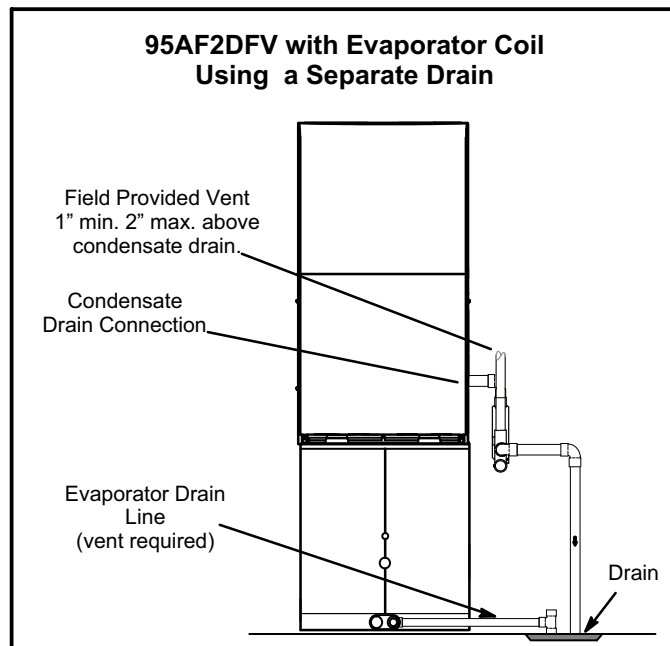

FIGURE 45
- 5 - Figure 45 shows the furnace and evaporator coil using a separate drain. If necessary, the condensate line from the furnace and evaporator coil can drain together. See figure. The field provided vent must be a minimum 1" to a maximum 2" length above the condensate drain outlet connection.